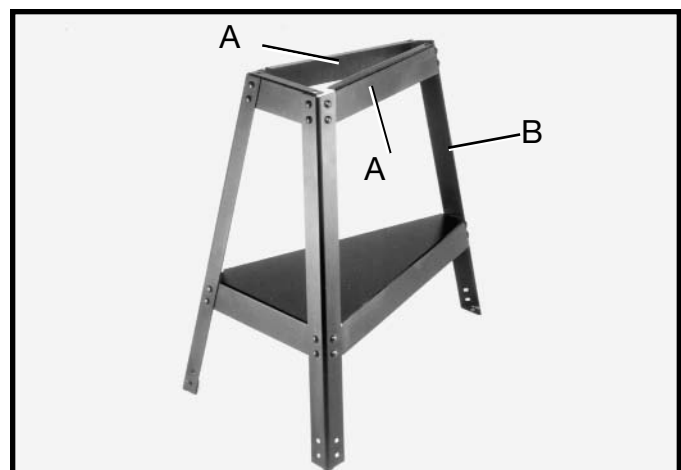

Fig. 4
1. Assemble the stand, as shown in Fig. 4, using the 24 carriage bolts, flat washers and hex nuts. NOTE: The round holes on the top of the two top braces (A) are to be positioned toward the rear leg (B) and all three legs are positioned outside the bottom shelf and top braces. DO NOT TIGHTEN STAND MOUNTING HARDWARE AT THIS TIME.